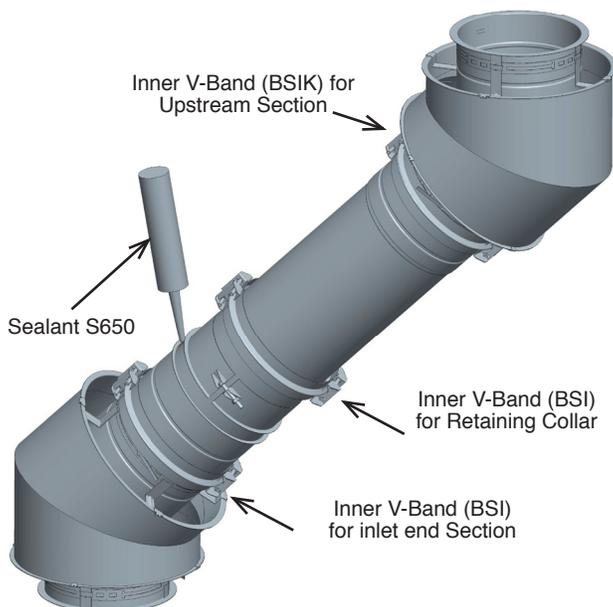

Figure 28 - Step 7-9 - Secure the Double Flanged Sleeve and seal the Retaining Flange Collar
9. Apply thin layer of sealant inside the retaining collar, and also a continuous bead of sealant at the collar overlap seam. See **Figure 28**.